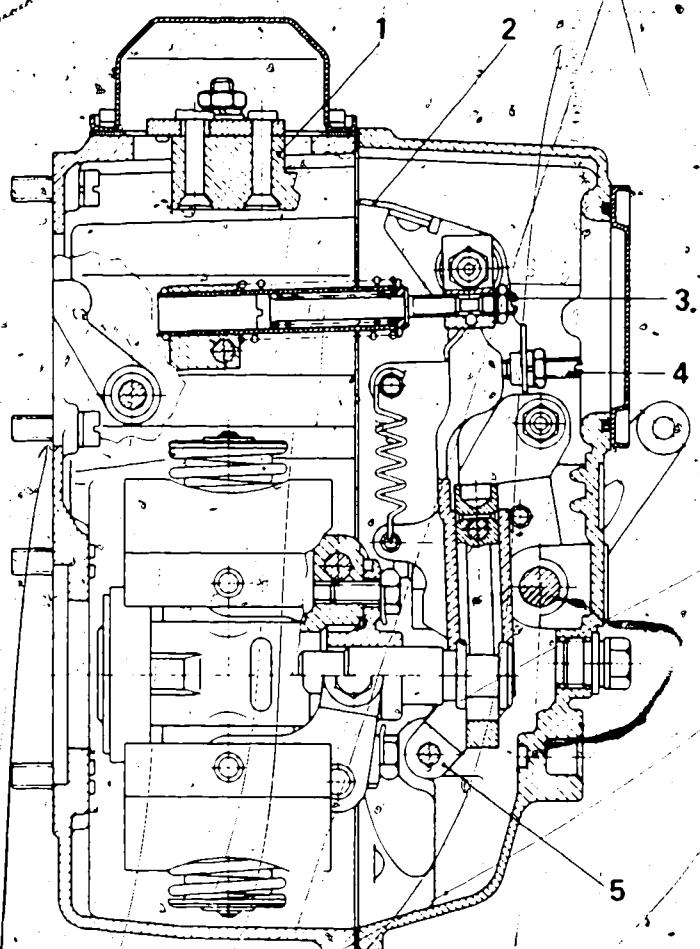

Fig. 3
In this case, when the pressure charger has not yet built up enough pressure for the MPC to respond, the full-load delivery is taken up by the stop screw of the elbow lever in the MPC. When the pressure charger is delivering sufficient pressure for the MPC to respond, full-load delivery values are set with the adjustable stop lug (Fig. 3) in the governor housing. The stop screw in the MPC housing is then set to the full-load control-rod travel + 0.5 mm.
control-rod travel at full-load stop (Fig. 3). Set speed
Correct at the adjusting screw of the rocker (Fig. 3).
- Always reset full-load stop (Fig. 3) to 12.7 mm